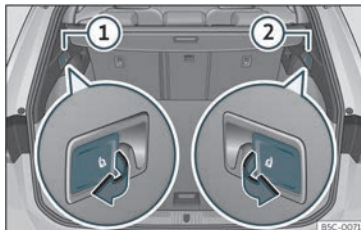

Fig. 107 In the luggage compartment: levers to unlock the rear backrest.
- Pull the remote release lever of the left part **»» Fig. 107 ①** or right part **②** of the backrest in the direction of the arrow. The released part of the rear seat backrest is folded automatically down and forwards.